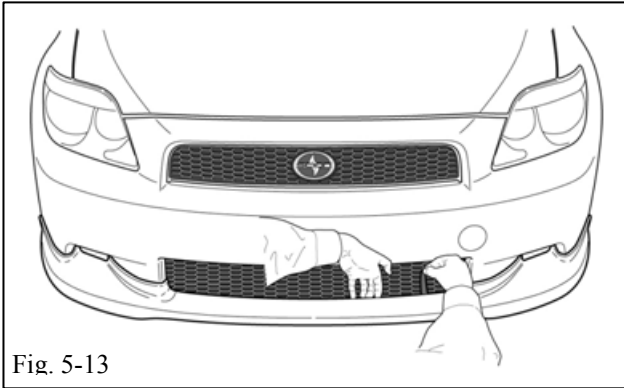

Fig. 5-13
- (p) Slightly lift the edge to pull the tape liner from the adhesive tape. Once the tape liner is completely removed, apply pressure to the entire edge of the front skirt at the grill opening to ensure good tape adhesion. (Fig. 5-13)